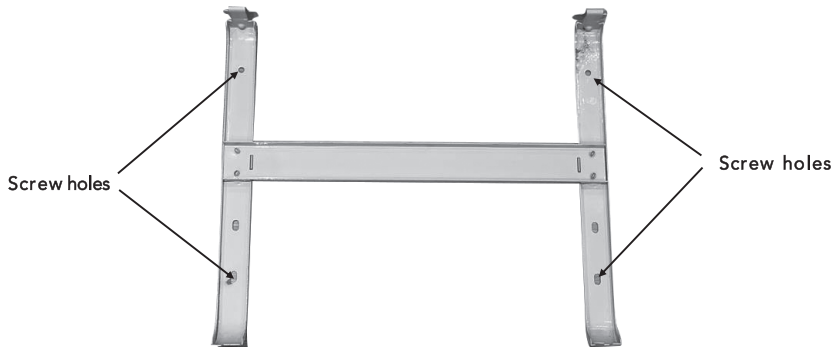

Fig.5
- 5. Turn the wall bracket around so the prongs stick outwards. Using the 4 screw holes found on the back of the wall bracket (Fig. 5), screw the wall bracket to the wall, through the centre of the plastic anchors.